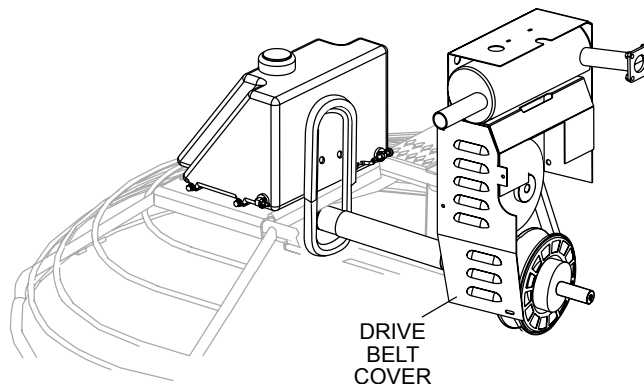

Figure 17. Drive Belt Cover
1. Remove Drive Belt Cover (see Figure 17).